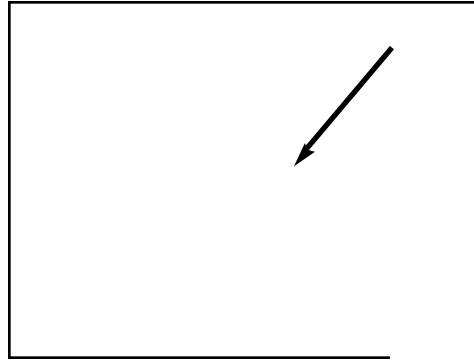

Figure 22
- Lift the assembly and insert attachment leg into bracket at bottom of tower. (See Figure 22 and its Inset.) **IMPORTANT:** Attach foot pump to tower for movement and storage purposes only. DO NOT operate foot pump from this location.